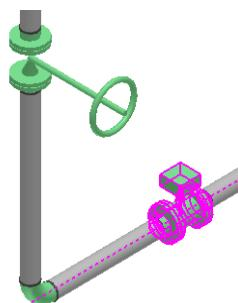

Figure 15. 67: Mating Part
2. In the graphic view, select **FE-523** from pipeline **P-204**, as shown in Figure 15. 67.